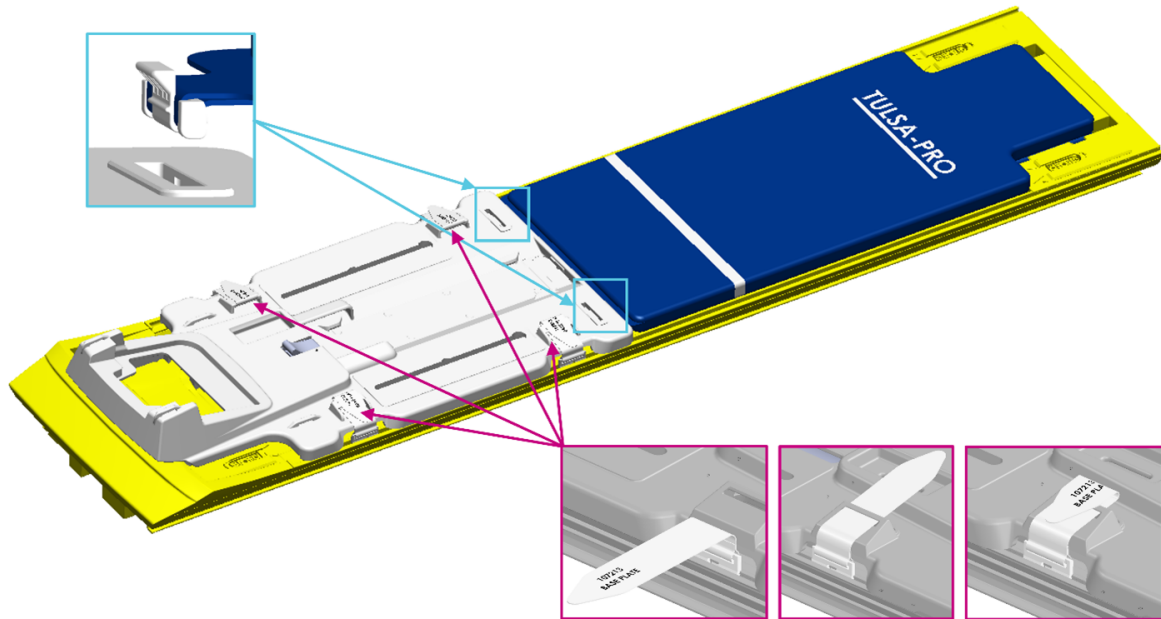

Figure 2: Securing the base plate and patient pad to the MRI bed
1. **MRI Technologist:** Attach the base plate onto the foot end of the MRI table and secure using the four base plate straps (*Figure 2*, your configuration might not match exactly as shown). The feet of the base plate should fit in the rails of the MRI table and not move around when in position.
2. Place the patient pad on the MRI table and secure it using the provided straps shown in *Figure 2* (your configuration might not match exactly as shown).
5.a.ii Preparing a Work Surface and Connecting the Positioning System (PS)